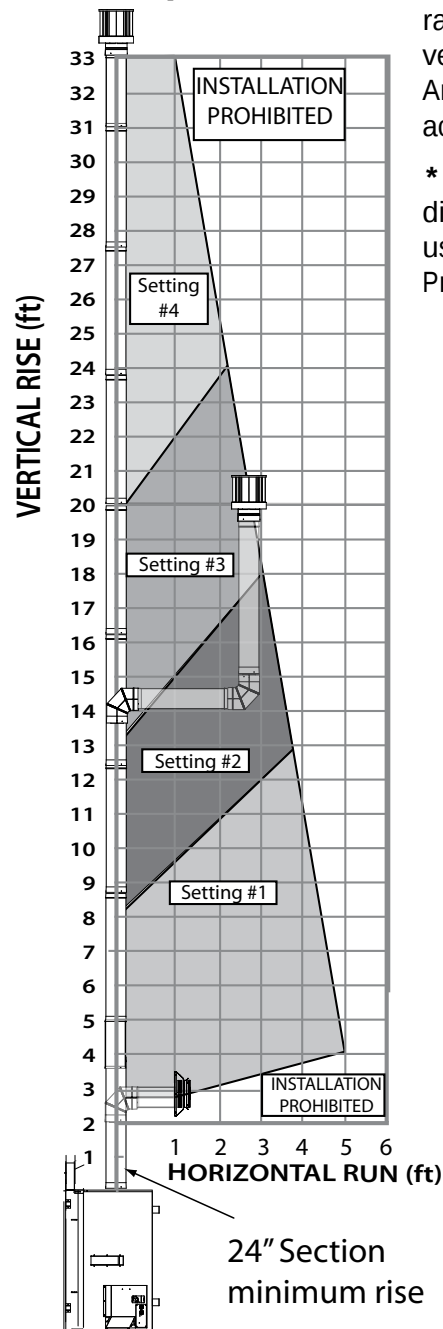

Figure 64: 8" x 11" LP Vent Graph
***Note:** Be sure to use the proper diagram depending on if your unit uses Natural Gas (Figure 63) or Propane (Figure 64).